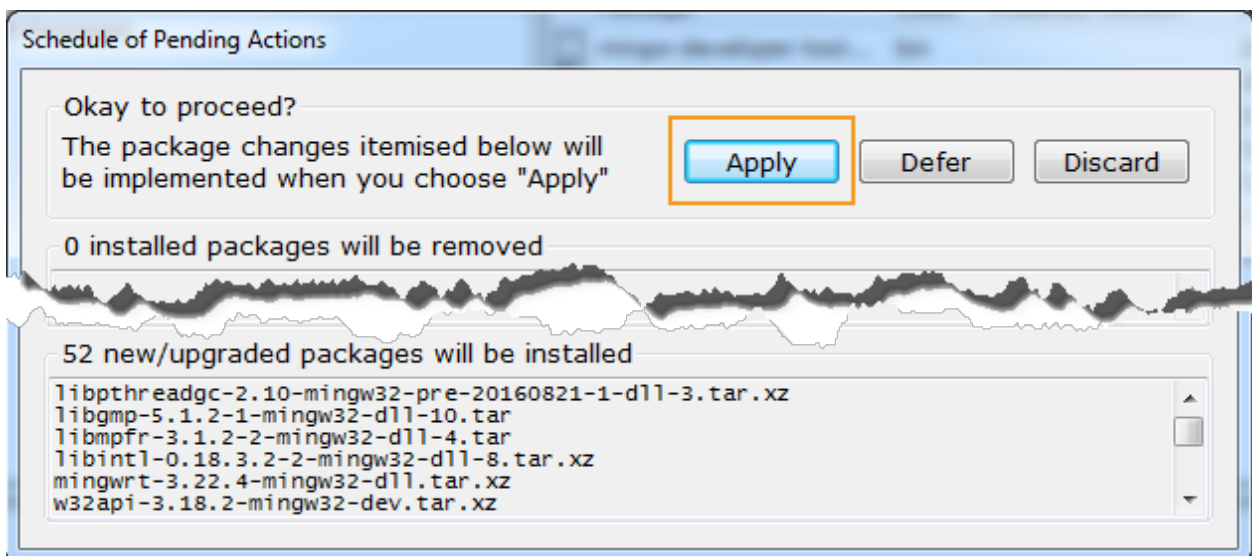

Figure 20. Schedule of pending actions
- 7) Click **Apply** on the pop-up dialog window (see Figure 20).